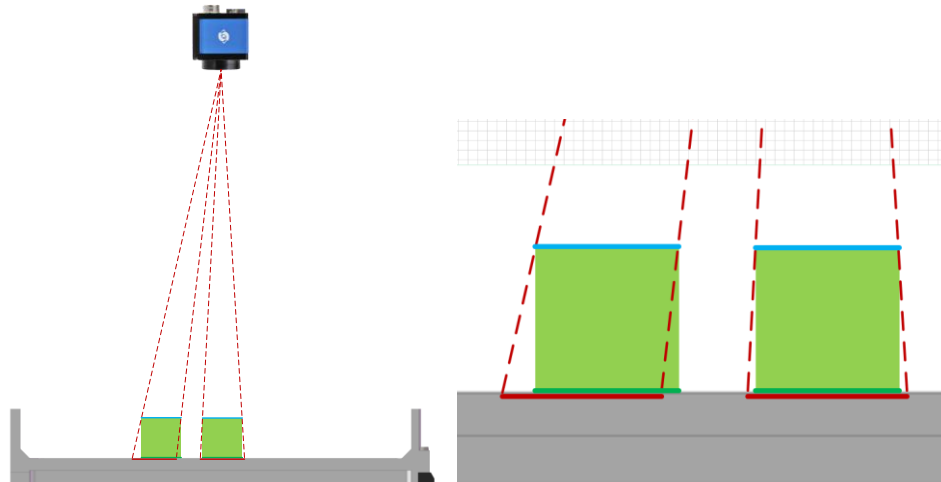

Figure 2-3: Example of a calibration problem
- If the calibration is performed in another plane, one mm in the calibrated coordinate system will not correspond to one mm in the part viewing plane (see Figure 2-3: Example of a calibration problem).